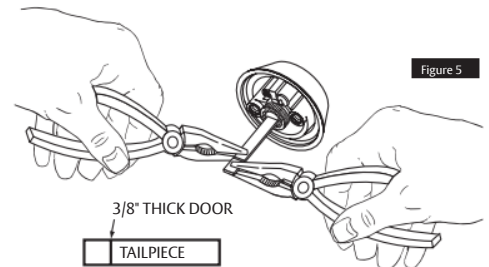

Figure 5
- If the tailpiece needs to be shortened, grip the tailpiece with pliers on both sides of the score mark and twist to break off. (See Figure 5).